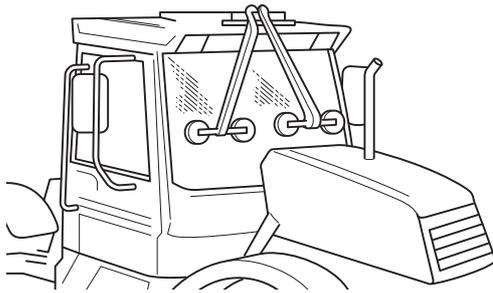

Fig 12. Typical M/c. Installation
- a Always use the special lifting tools when moving the glass. Use a lifting strap to hold large panes of glass in position. → Fig 12. (□ B-6)